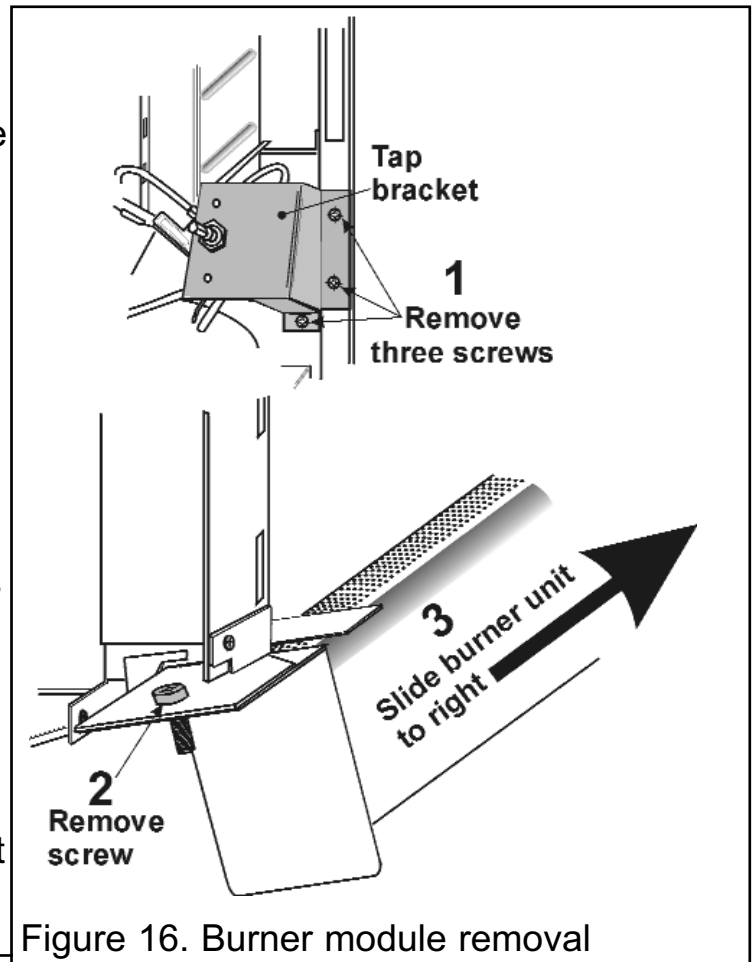

Figure 16. Burner module removal
4. Detach the gas tap bracket from the right side of the appliance by removing three screws (See figure 16).
5. Detach the left side of the burner from the firebox by removing one screw (See figure 16).
6. Free the burner & pilot module from the rear pilot air pipe and the firebox by carefully sliding the module to the right while pulling it slightly (See figures 16 and 17).